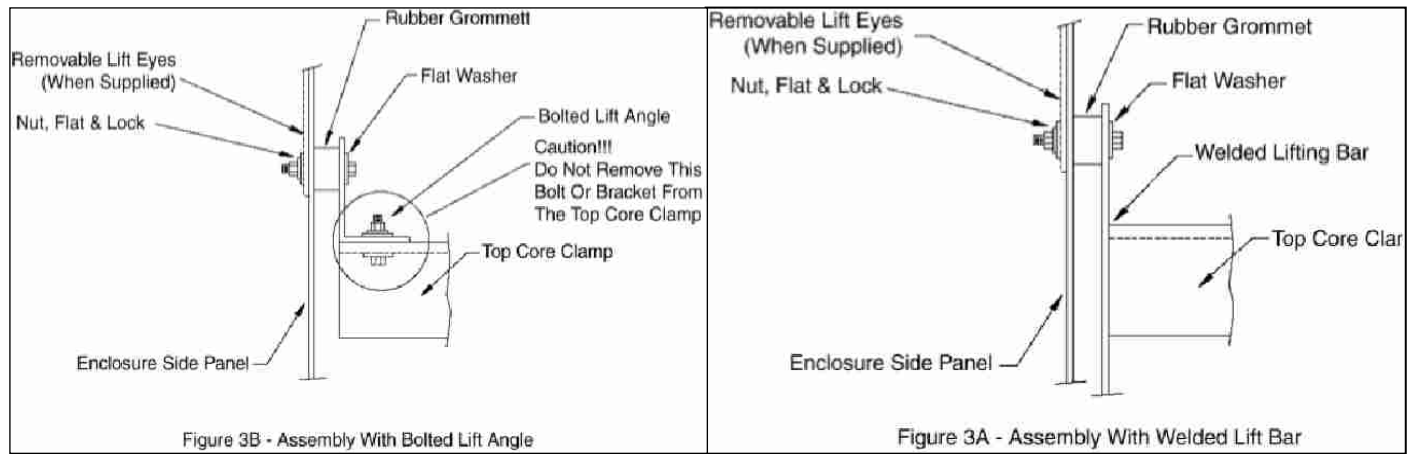

Figure 3 - Shipping Hardware Removal
If it is necessary to change taps or assemble a lug to a connection point, gently scrape coating from new connection surface using a sharp knife. Apply a light coating of grease from the tap jumper pad to the scraped surface and tighten connection using two wrenches as described above. Refer to Figure 3, Page 8 for instructions for the installation of cable lugs. Care must be taken to place all leads to the same load, or from the supply source through one knockout so that no part of the transformer case is positioned between such leads.
3. Remove shipping hardware at installation (See Figure 3).